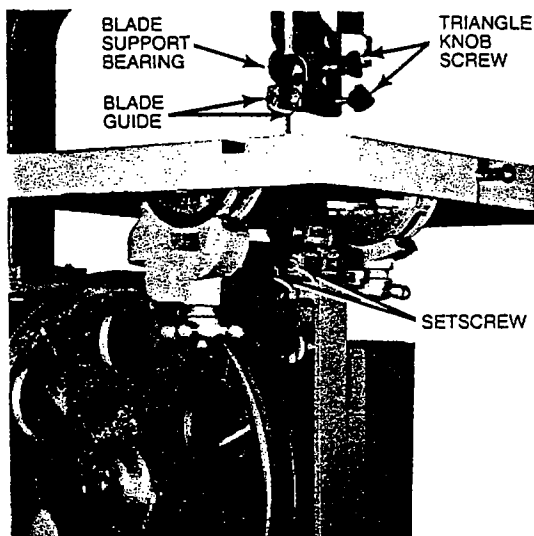

FIGURE 21
1. Loosen both setscrews (Figure 21), moving both guides as closely to sides of blade as possible. DO NOT pinch blade.